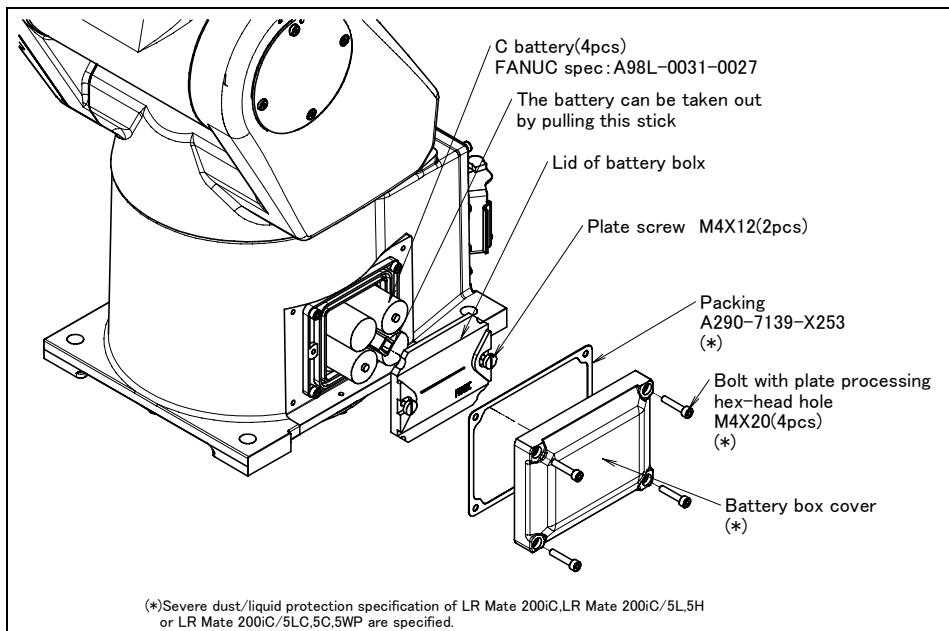

Fig.2.1 (a) Replacing the battery (battery built-in type)
- 2 When severe dust/liquid protection or 5LC,5WP,5C is selected, remove the battery case cap. (Fig. 2.1(a))